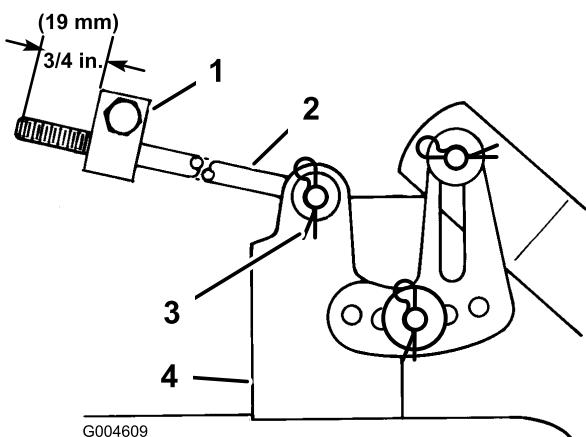

Figure 47
11. Measure the length of the rod extending out of the front of the adjusting block on the sides of the chassis (Figure 47). If the rod length is not $3/4$ inch (19 mm), remove the hairpin cotter and washer from the end of the rod (Figure 47) and turn the rod until it extends out $3/4$ inch (19 mm).